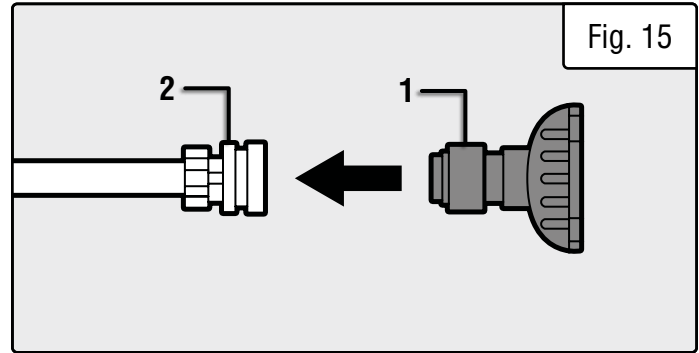

Fig. 15
1. To connect or disconnect the spray tip (Fig. 15 - 1), pull back on the quick-connect collar (Fig. 15 - 2). Insert or remove spray tip then release the collar.